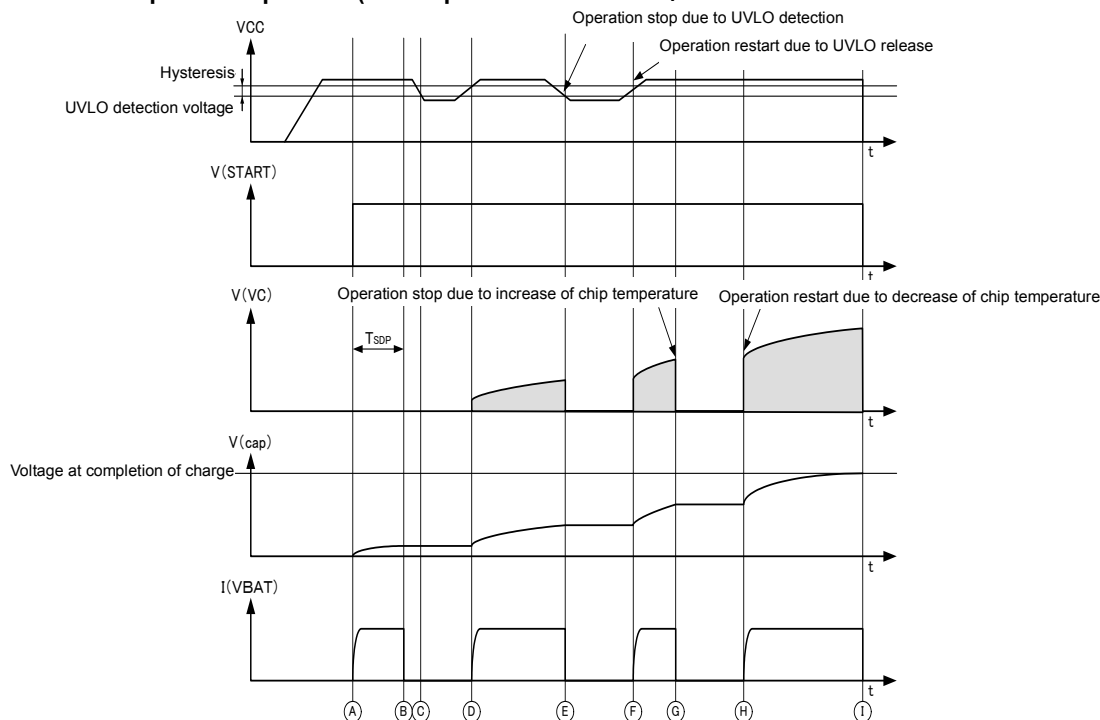

Fig 35 Timing Chart 3: Under Protective Circuit Operation
- ③ The protective circuit is activated (See Fig 35 and the Protective Circuit.).
If the VCC voltage is reduced to the UVLO detection voltage specified in the electrical characteristics or less, the UVLO protective circuit is activated and the charging operation temporarily stops. (See Time Ⓐ and Ⓒ in Fig 35.) After that, when the VCC voltage becomes the UVLO release voltage or more, the charging operation automatically restarts. (See Time Ⓓ and Ⓕ in Fig 35.)
It protects the IC against thermal runaway due to excessive temperature rise ( $T_j > 175^\circ\text{C}$  [TYP]). After detection, the charging operation temporarily stops (See time Ⓒ in Fig 35.), and when the chip temperature decreases, ( $T_j < 150^\circ\text{C}$  [TYP]), it automatically restarts. (See Time Ⓔ in Fig 35.)
If the VC pin becomes the GND level due to any failure and the PowerTr repeats switching  $2^{16}$  (=65536) times which is the SDP count number (TSDP) at the maximum OFF time, it is judged as an error and the charging operation is forced to be stopped. (See Time Ⓒ in Fig 35.) If the START pin is changed from "L" to "H" and the UVLO detection is released, it restarts.